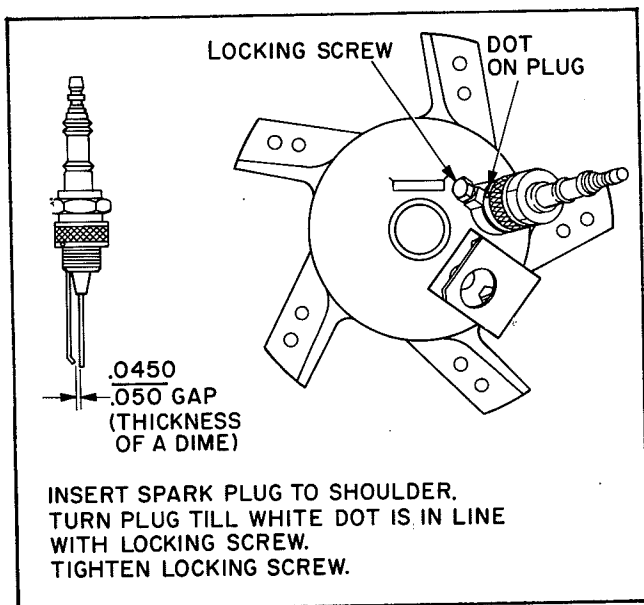

Figure 8. Spark Plug Gap Setting
3. To ground a non-grounded outlet, install a bare 14-gauge copper wire from the outlet box (figure 8) to a metal rod which has been driven at least 18 inches into the ground. Use a metal grounding clamp when attaching the wire to the metal rod.
2. Loosen the screw which secures the spark plug in the burner head and remove the spark plug. Check the gap between the electrodes. The gap must be within the limits shown in figure 8.
4. Reinstall the spark plug so that the white dot on the plug (just below the knurled surface) is in line with the retaining screw). (See figure 8.) If the white dot has been obliterated or is absent, position the plug so that the electrode gap will lie across the spray pattern. Tighten the screw to lock the spark plug in this position.